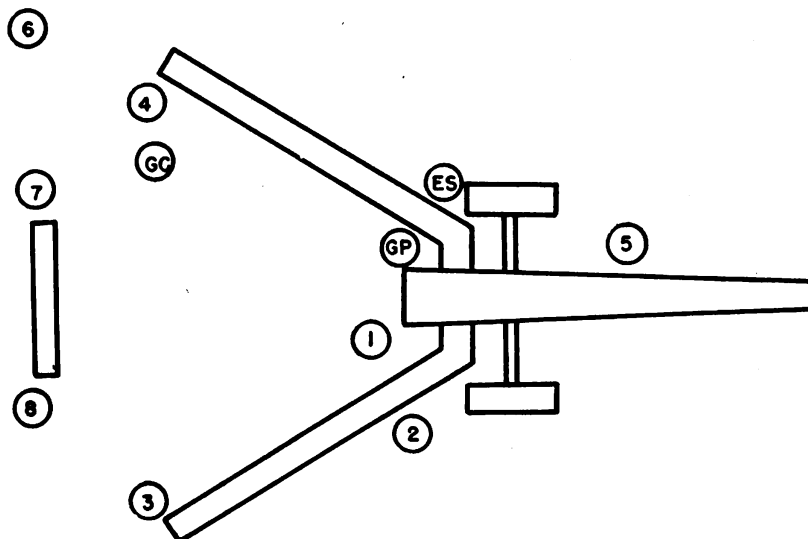

FIGURE 2.—Posts of 155-mm gun section.
Q. What are the posts of the cannoneers at the command DETAILS, POSTS? A. See figure 2 and table I.